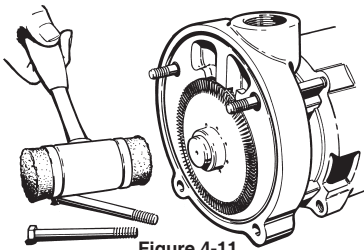

Figure 4-11
4. Remove the impeller(#11), refer to Figure 4-11. This is easily done by setting the motor on end. The impeller is a slip fit and under normal conditions, can be removed by hand or by gently tapping on the end of the shaft with a mallet. Striking the shaft too hard could damage the seat, rotating element, or the motor. After removing the